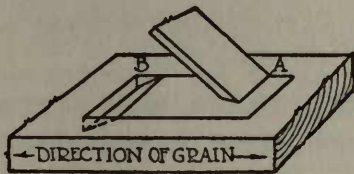

Fig. 38.
1. **Set the chisel as at A (Fig. 38) and cut toward the end of the mortise.**